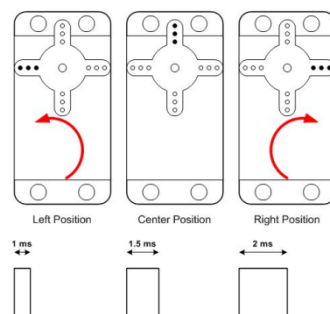

Figure 2: Servo positioning diagram (Reference <http://robot.avayanex.com/?p=48>)
2. Behavior models, e.g. model for the RC Servo motor PWM interface as shown in Figure 2.